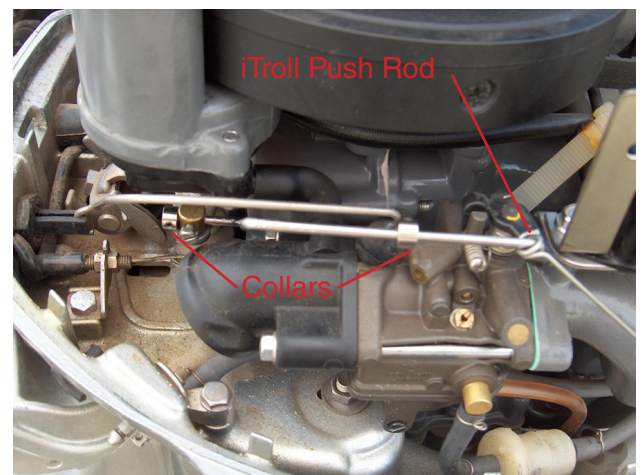

Fig 2
- Remove Honda throttle rod from carb arm (D).
Step 4: See Fig. 2
- Install iTroll throttle rod onto carb arm (D)
Step 5: See Fig. 2